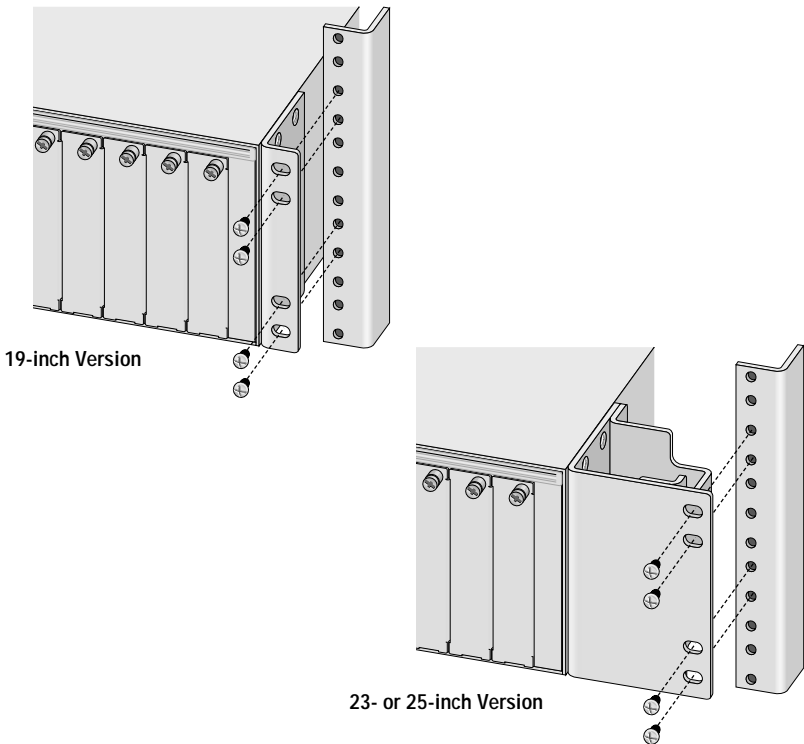

Figure 12 Installing the Chassis to a Rack
3. Attach the chassis to the rack with 4 screws (not provided) for each side. See Figure 12.